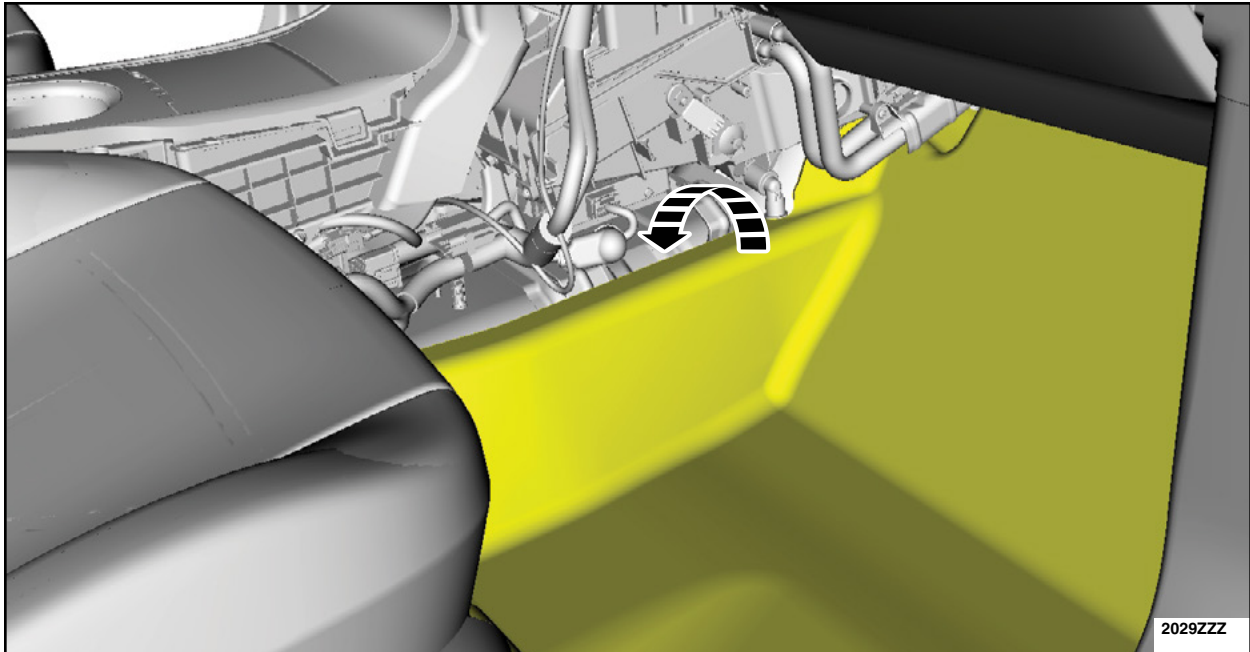

FIGURE 12
15. Position back the carpet. See Figure 12.